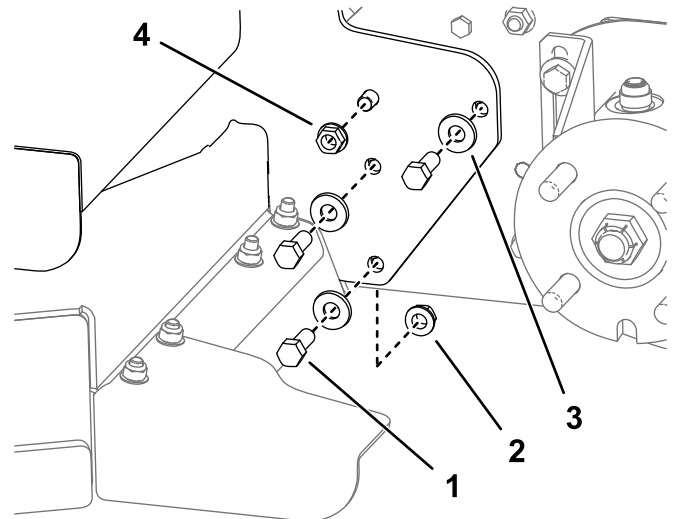

Figure 4
1. Install 8 bolts (3/8 x 1 inch), curved washers, and flange nuts to secure the rotary cutting deck to the power unit as shown in Figure 4.